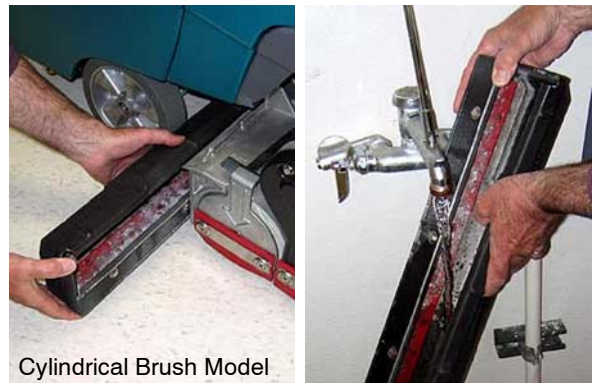

FIG. 62
6. Empty and rinse out the debris trough (Figure 62).